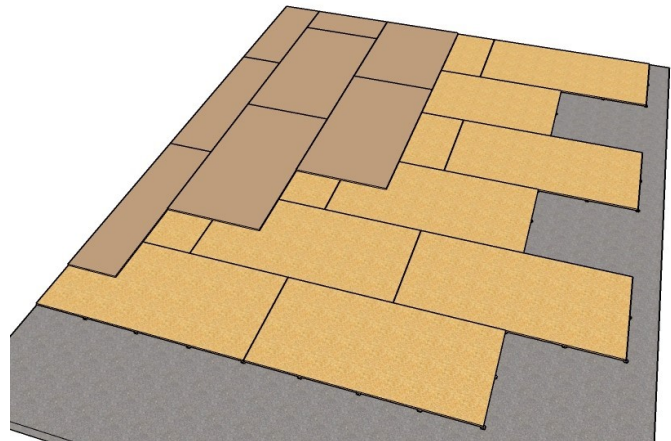

Figure 3: Typical upper panel layout (shown darker)
- Fig. 3: Typical upper panel layout. Square-edge panel glued to lower panel with strong axis perpendicular to lower panels and joints offset.